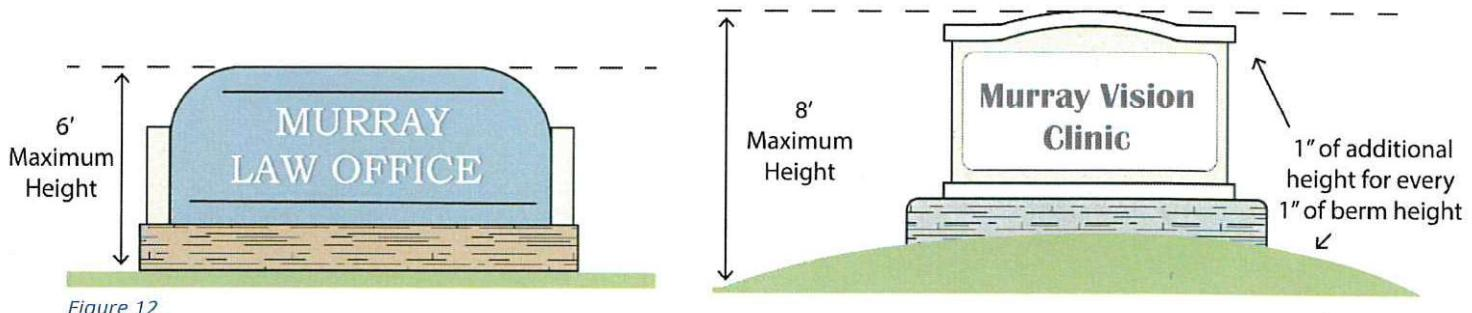

Figure 12
4. The sign may not exceed six feet (6') in height from the top back of curb on the public street (*See Figure 12*). On corner lots, the sign may not exceed four feet (4') in height from curb grade or street grade if located within the twenty five foot (25') triangular clear vision area (*See Figure 1*). Signs placed within bermed areas may have an additional inch of overall height for each vertical inch of berm directly under the sign. In such cases the entire frontage must have existing or equal berthing treatment, and the sign shall not exceed an overall height of eight (8) feet (*See Figure 12*).